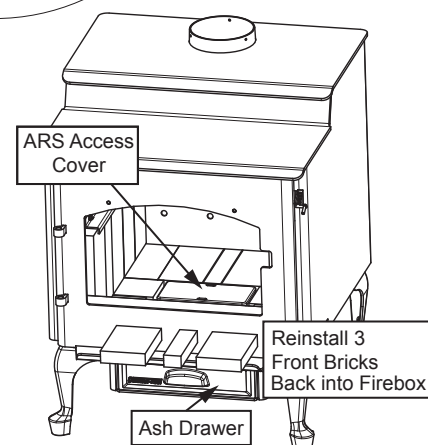

Figure 21.4
3. Install ARS Spacer on left hand side with one bolt using Phillips head screwdriver (**Figure 21.4**).
1. Replace 2 front bricks that were removed (**Figure 21.4**).
3. Install ARS access cover inside of ARS Channel that is located inside the firebox (**Figure 21.4**).